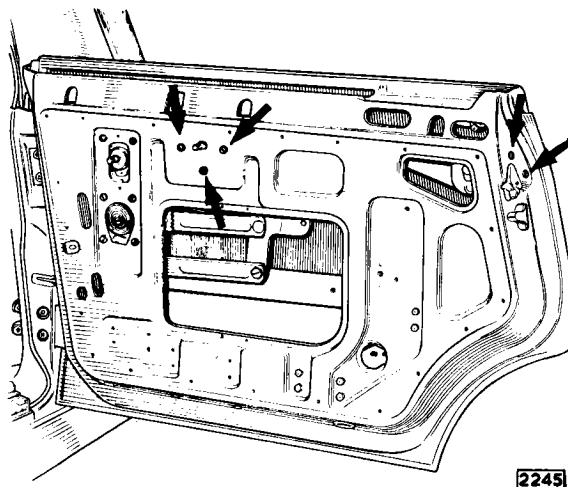

Fig. 44. The rear door lock mounting points.
Raise the window to the full extent and release the spring clip holding the bottom of the outside handle connecting link (E or Ea) Fig.44 to the dowel (F) on the intermediate lever. This is accessible through an aperture in the inner door panel. Remove the spring clip (G) and the waved washer fitted between the connecting link (H) and the remote control link.